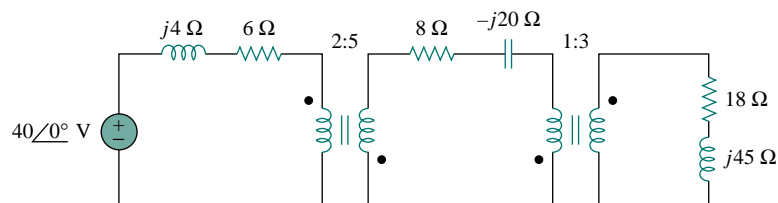

Figure 13.113 For Prob. 13.46.
- 13.46** For the network in Fig. 13.113 below, find